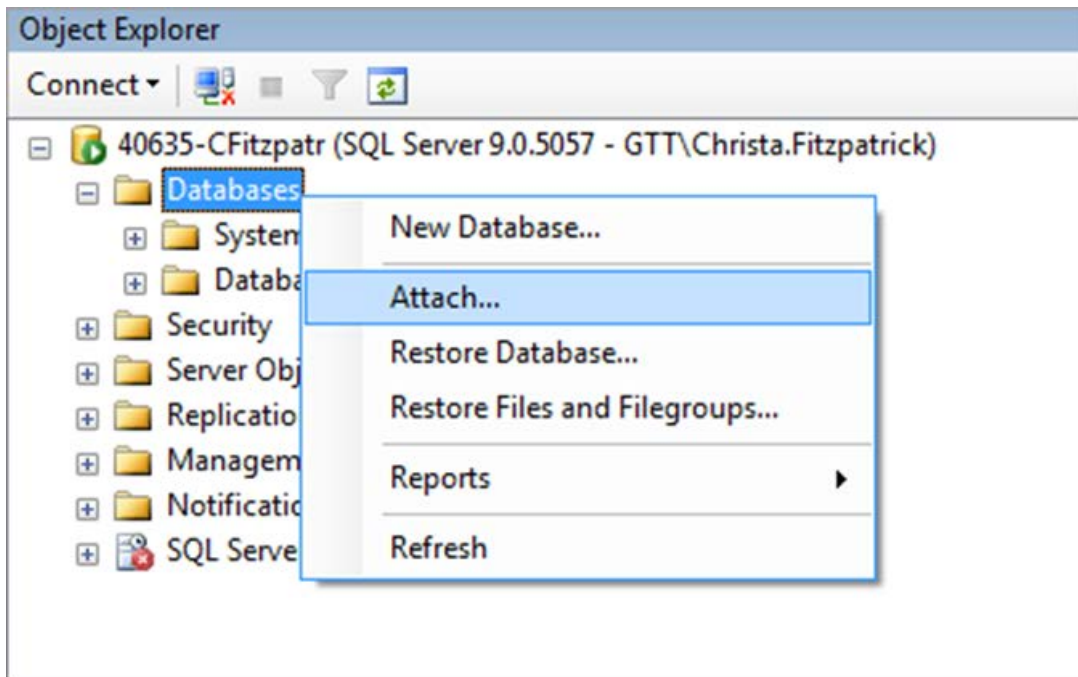

Figure 19-3
4. Select the 'Attach' menu item and a window will open. See Figures 19-3,4,5.
7. Select the 'Attach' menu item and a window will open. See Figures 19-3, 19-4 & 19-5.